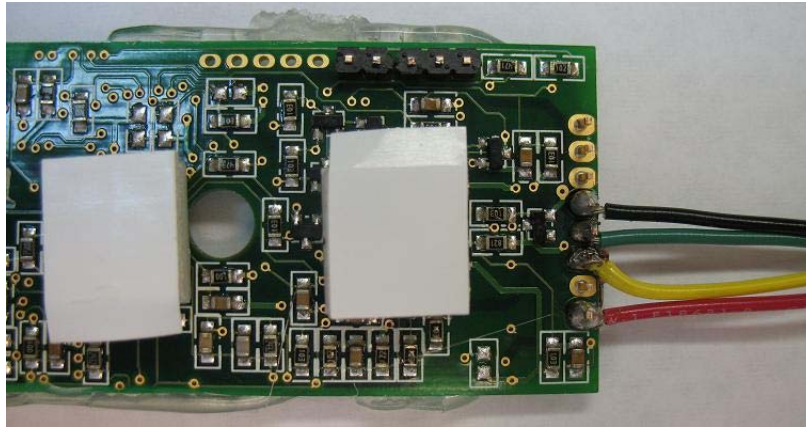

Figure 3.
6. Insert two stand offs into the Indala board per Figure 3.